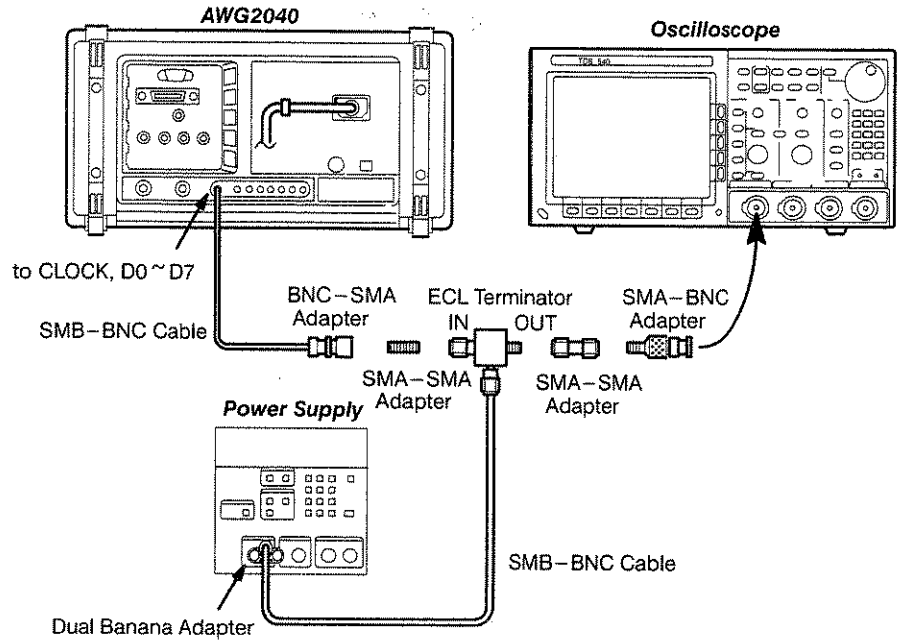

Figure E-22: Digital Data Out Initial Test Hookup
- b. Hook up DC power supply: Connect the ECL terminator **BIAS IN** through the BNC–SMB coaxial cable and adapter (BNC female to dual banana) to DC power supply (see Figure E-22).